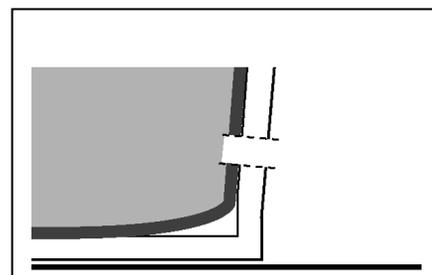

Fig. 6
6. Select a spot on the container wall that is the least visible from normal viewing for the cord exit. Drill a hole in appropriate 1 1/4 in. diameter. Fig. 6